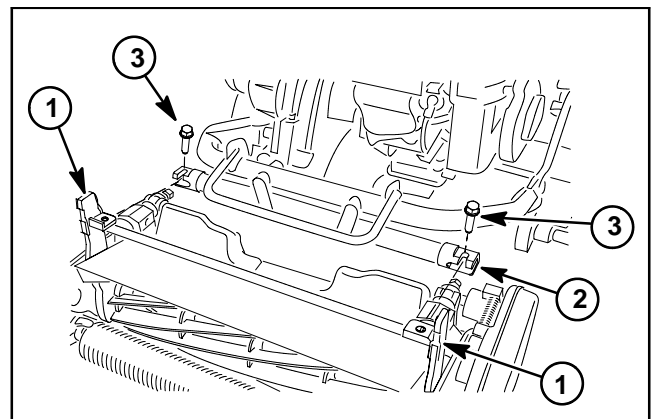

Figure 4
5. Loosen two (2) flange head screws that secure cutting unit pitch arms to traction unit roll frame (Fig. 4). It is not necessary to completely remove the screws.